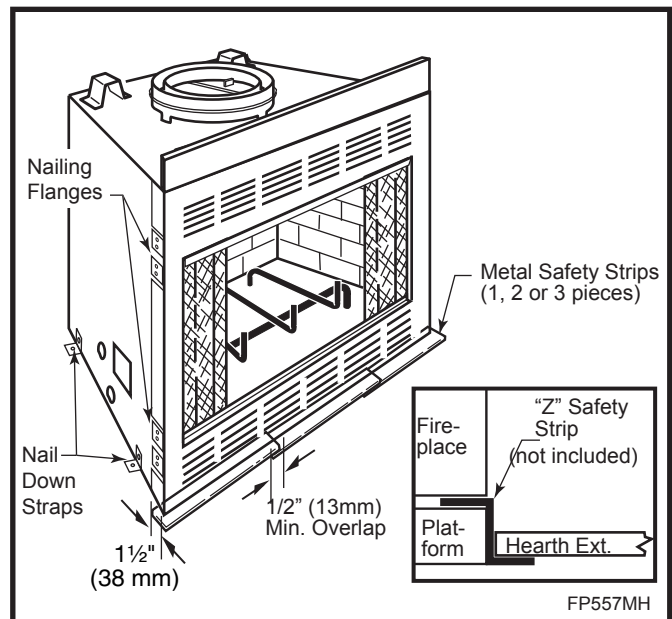

Fig. 10 Safety strip installation.
Lift the fireplace front slightly and slide the metal safety strips under front bottom edge about 1 1/2" (38 mm), allowing the remainder to extend in front of firebox. Overlap strips at least 1/2" (13 mm) to provide a positive joint. (Flat safety strips are packed with fireplace) (Fig. 10)
Secure fireplace to floor with four (4) nail down straps located at the bottom of either side of the fireplace. Secure the fireplace to the vertical framing studs using the appropriate nailing flanges on either side of the fireplace front face. (Fig. 10)